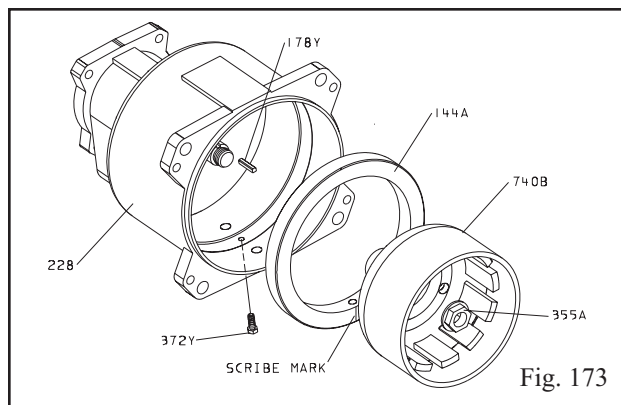

Fig. 173
25. Install rub ring (144A) into bearing frame (228). Line up through hole in rub ring with tapped hole in frame (228) by using scribe mark on the rub ring to reference tapped hole in frame. Lightly tap rub ring (144A) with rubber mallet until it shoulders into bearing frame (228) (Fig. 173).
26. Install $\frac{5}{16}$ " hex cap screw (372Y) into bottom of frame (228). This screw will prevent rotation of rub ring (144A) from rotating during pump operation (Fig. 173).